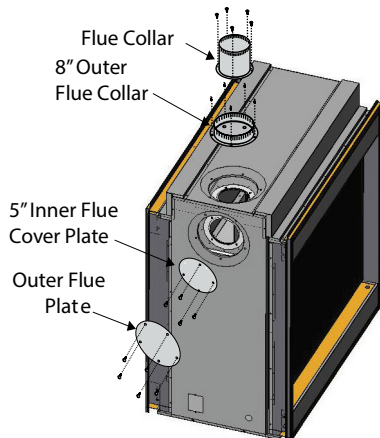

Figure 7. Flue cover and collar removal, Top Vented fireplace.
1. Remove the Side flue cover and gasket (5" and 8") on the flue outlet, as shown in Figure 7.
2. Next, Remove the Top flue collar's (5" and 8") on the flue outlet, as shown in Figure 7.